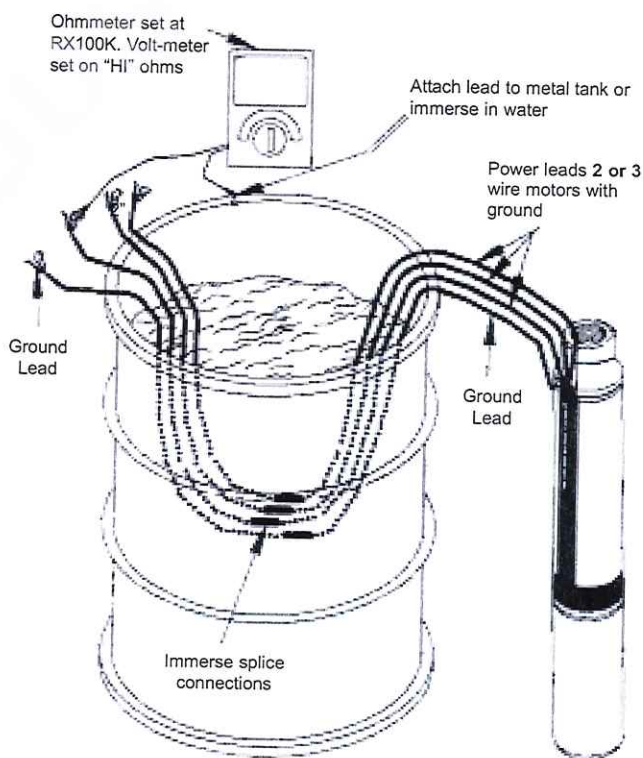

Figure 3 - Cable Test
1. Immerse the cable and splice connections into a steel barrel of water with both ends out of the water and not touching the barrel (Figure 3).
2. Set ohmmeter on RX 100K and adjust needle to zero (0) with leads clipped together.
4. If the needle deflects to zero (0) on any of the cable leads, a faulty splice connection is indicated. To double check the faulty splice connection, pull the splice out of the water. If the needle now moves to ∞ (infinite resistance) the leak is in the splice.